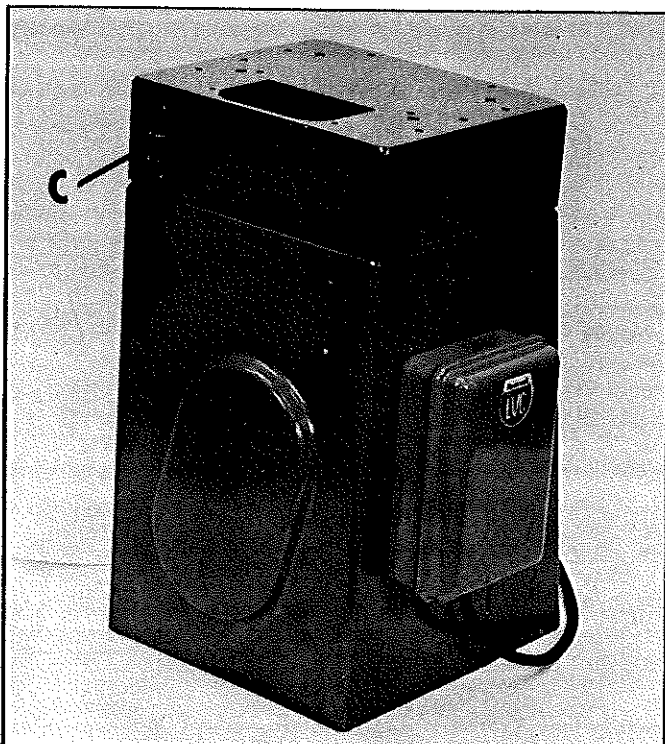

Fig. 2
If you purchased your machine complete with stand and electricals, factory mounted and wired, the stand is shipped as shown in Figs. 2 and 3. The motor plate (A), motor (B), and switch (C) are completely assembled to the stand. The necessary wiring from the motor to the switch has been completed.